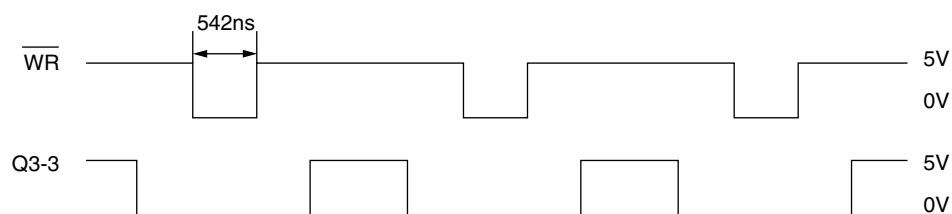

Figure B-8
• Yes Are, \overline{WR} , and BUS signals of Q3 pin 3 as specified in Figure B-8?
• Yes Is 4 pin of Q6 identical to \overline{WR} signal in Figure B-8?